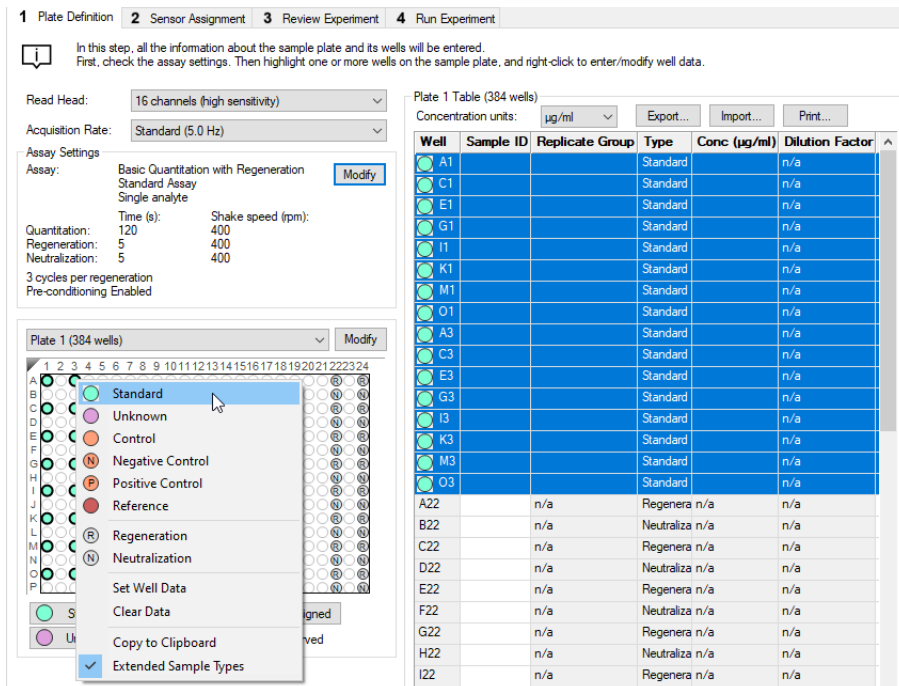

Figure 7-14: Plate Definition Window—Designating Standards
2. Click the **Standard** button below the **Sample Plate Map** (see Figure 7-14), or right-click and select **Standard**. The standards are marked in the plate map and the **Sample Plate Table** is updated.